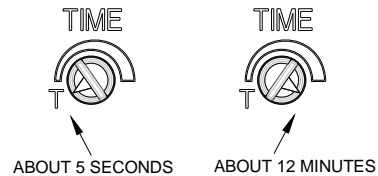
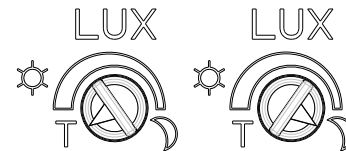

FIGURE 12
FIGURE 13
(1) TEST MODE
- Turn the Lux control and the Time control counter-clockwise to the edge – the TEST position (T) See Figure 12 and Figure 13
(2) TIME ADJUSTMENT
about 12 minutes) how long the floodlight stays on or counter-clockwise to decrease (down to about 5 seconds) the time delay (FIGURE 12).
Provisionally turn the Motion Sensor LUX control knob to the edge at the moon (dusk) position (FIGURE 13). In this provisional setting mode, the Motion Sensor remains inactive during daylight. At dusk when you find it is the LUX level desired for operation, simply set the LUX control knob to the position that will become active as daylight declines.